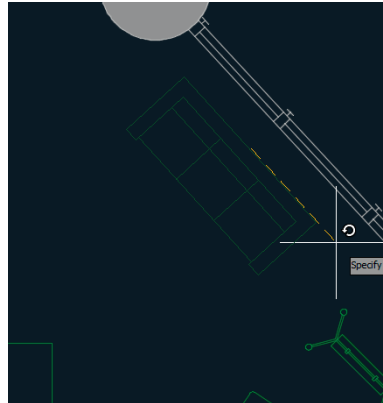

FIGURE 9.9 Inserting the new sofa
- Click approximately where you deleted the armchairs and side table to insert a `Sofa2` block reference in the drawing, and estimate the rotation angle so that the sofa is parallel to the exterior wall (see Figure 9.9).